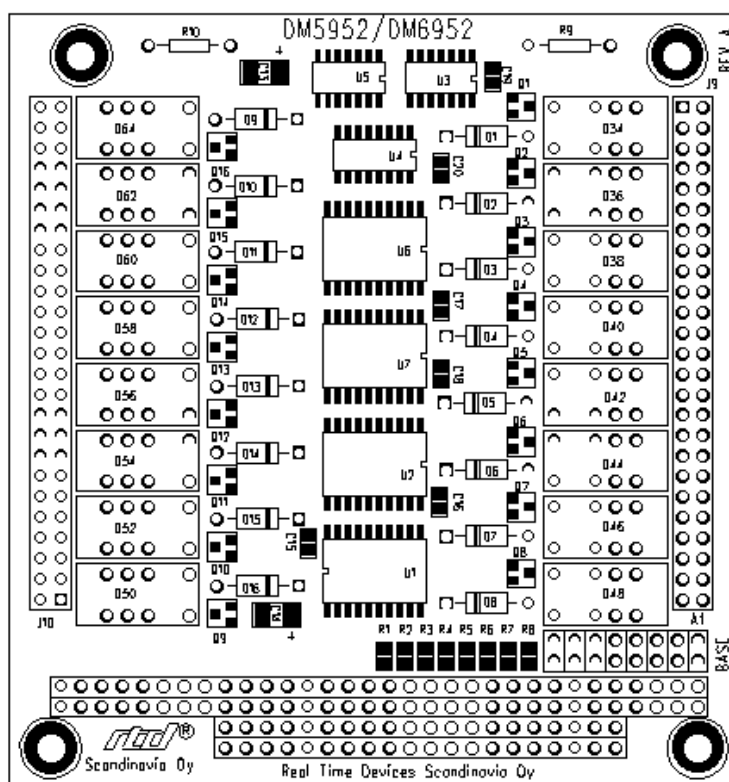

Figure 2-1 - Board layout showing jumper locations (Figure shows DM6952HR board)
- Fig. 2-1: Board layout showing jumper locations
Table 2-1: Factory jumper settings (see figure 2-1 below for detailed locations)